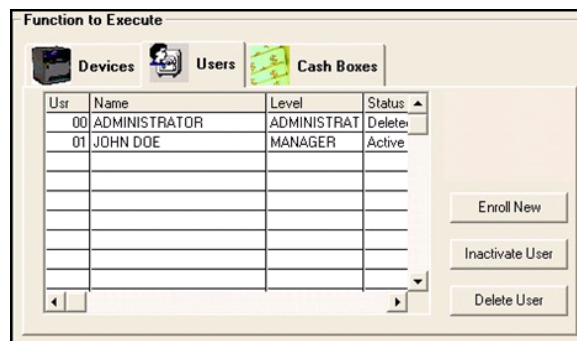

Fig. 8.20
- The Users tab allows you to enroll new users, inactivate users, or delete users (Fig. 8.20).